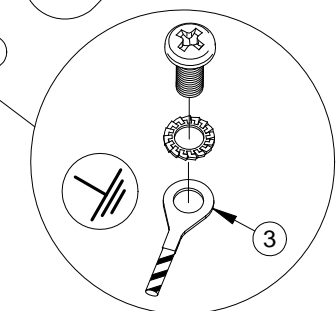

Fig. 13
6. Remove earth screw and washer and assemble and secure with conductor eyelet in position as shown in Fig. 13.